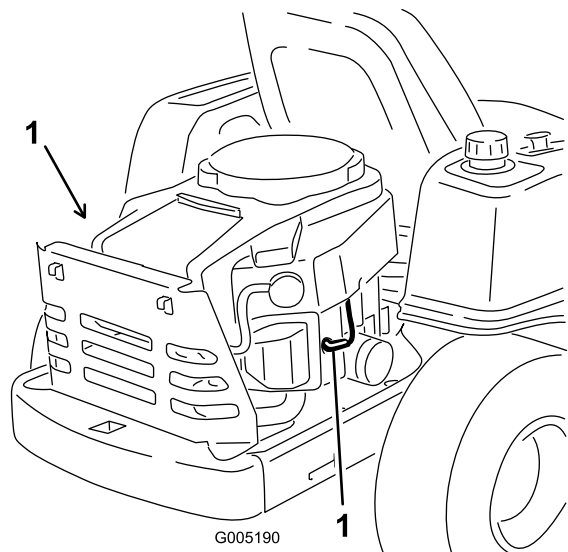

Figure 33
Pull the wire off of the spark plug(s) (Figure 33).
3. Push the wire onto the spark plug (Figure 33).